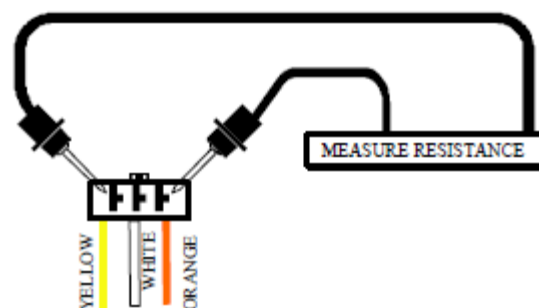

Figure 25. Connector 14
11. Disconnect the main harness (7) from the throttle pot (14). Note: This is a red connector with three wires, yellow, white, and orange.
12. Insert multimeter probes into the throttle pot connector (14) at the yellow wire and the orange wire (outside two pins). See figure 25.